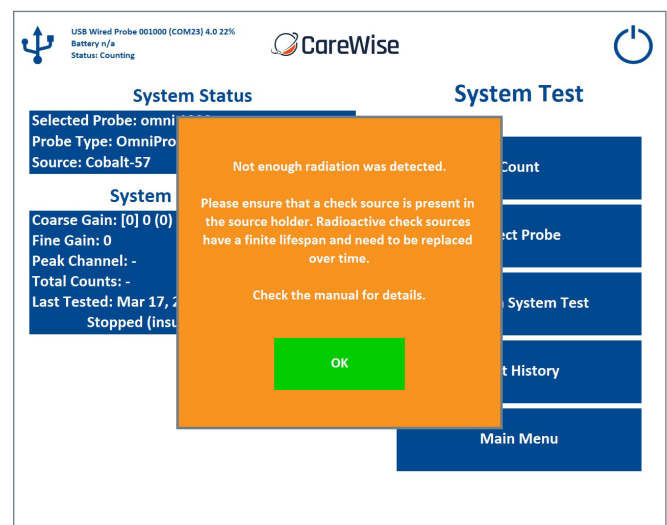

Figure 40 – Not Enough Radiation Detected Error.
**Not Enough Radiation Detected Error** – [Figure 40] This error will appear if the probe does not detect enough radiation to complete the System Test [Section 2.4-7]. Ensure that the probe is fully inside the check source holder and that the source disc is less than two years old. Reattempt System Test.